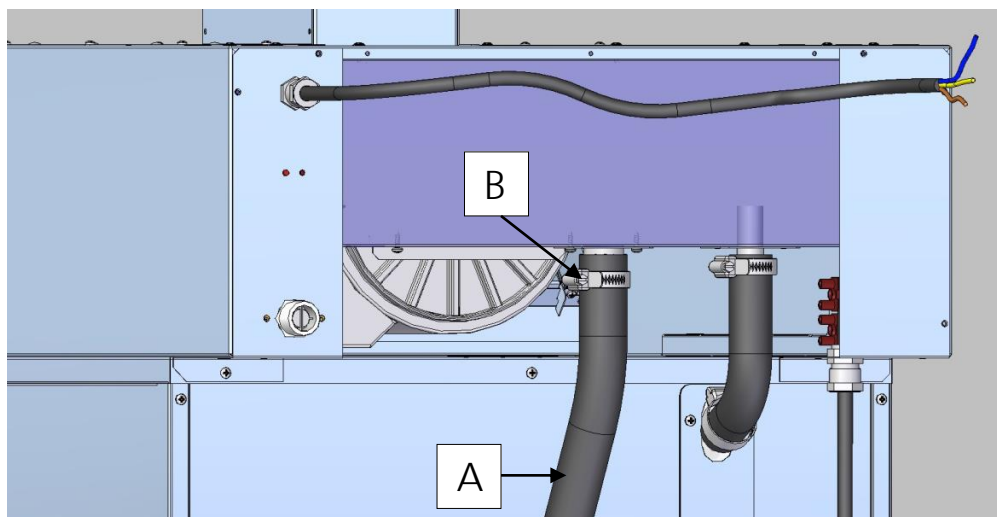

Fig. 9
*The drain pipe "A" located at the rear of the appliance must be connected to a pipe with 30 mm internal diameter (DN 30). Fasten it with the metal strap "B" supplied. The piping may be either rigid or flexible pipe and there must be no "elbows" along the drain path. The drain piping must be conveyed to an open drain or with siphon. In any case, for reasons of compliance with health regulations in force, the piping connected to the drain pipe of the appliance must not be in direct contact with the drain point. (Fig. 9)*